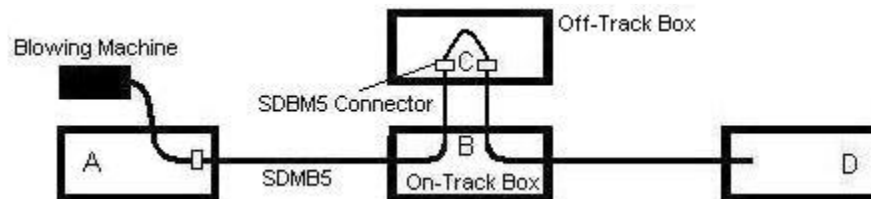

Figure 12 – Install of cable through SDBM5 'jumper'
1. Install a minimum length of loop between the SDBM5 Connectors 1's in the off-track box (see Figure 12).